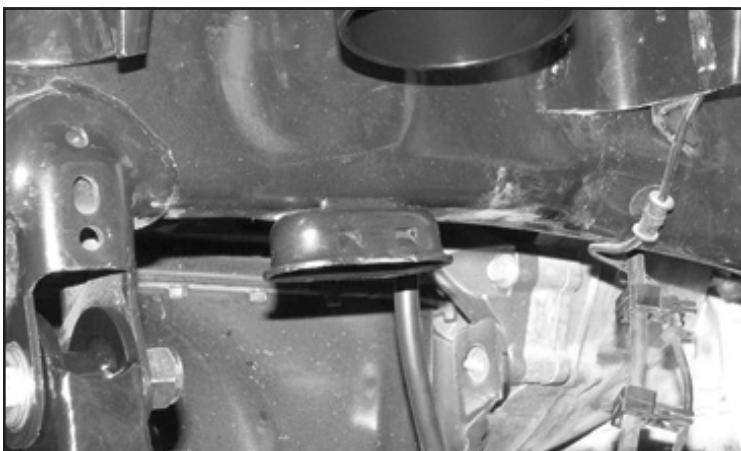

FIGURE 12 - STEP 22
22. Locate and remove the factory rubber bump stop. **SEE FIGURE 12**